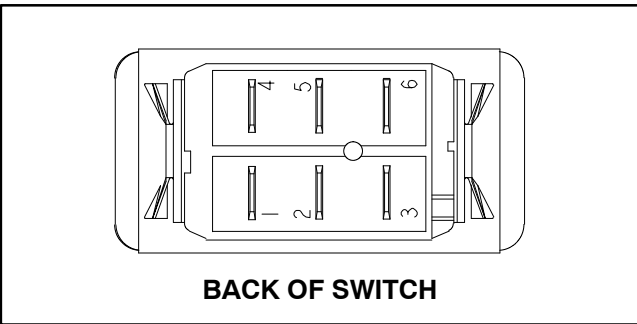

Figure 36
- 4. The deck lift switch terminals are identified in Figure 36 and the circuitry of the lift switch is shown in Figure 37. With the use of a multimeter (ohms setting), the switch functions may be tested to determine whether continuity exists between the various terminals for each switch position. Verify continuity between switch terminals.